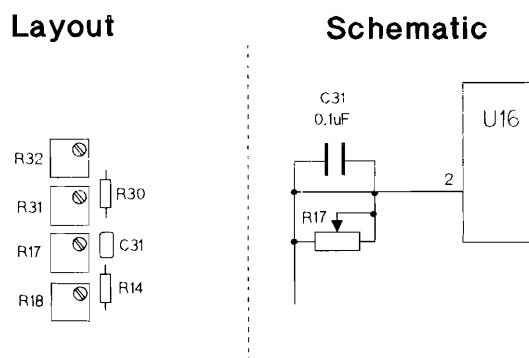

Figure B-2. C31
2. Figure B-2 shows the location of C31 in the circuit and on the control board. Modify Figure 10.5-6 and Figure 10.5-8 accordingly.